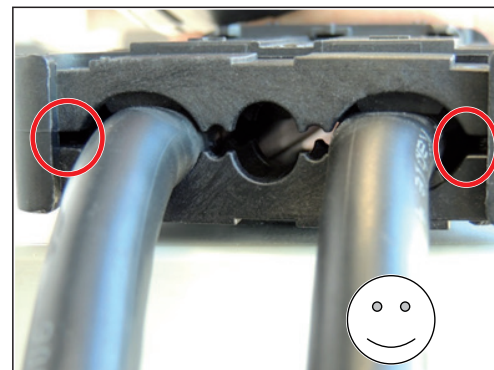
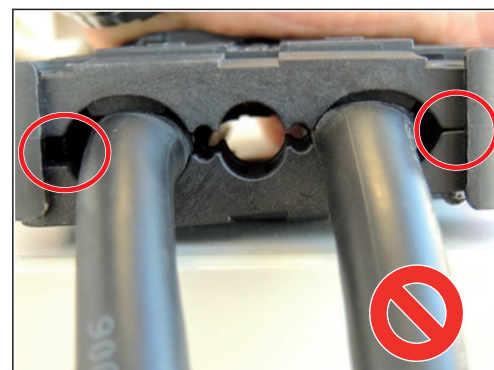

Fig. 25: Uniformly screwed strain relief
Fig. 26: Non-uniformly screwed strain relief
9. Screw together the upper and lower clamp of the strain relief so that all cables are uniformly and reliably secured against strain (refer to Fig. 25 and Fig. 26).